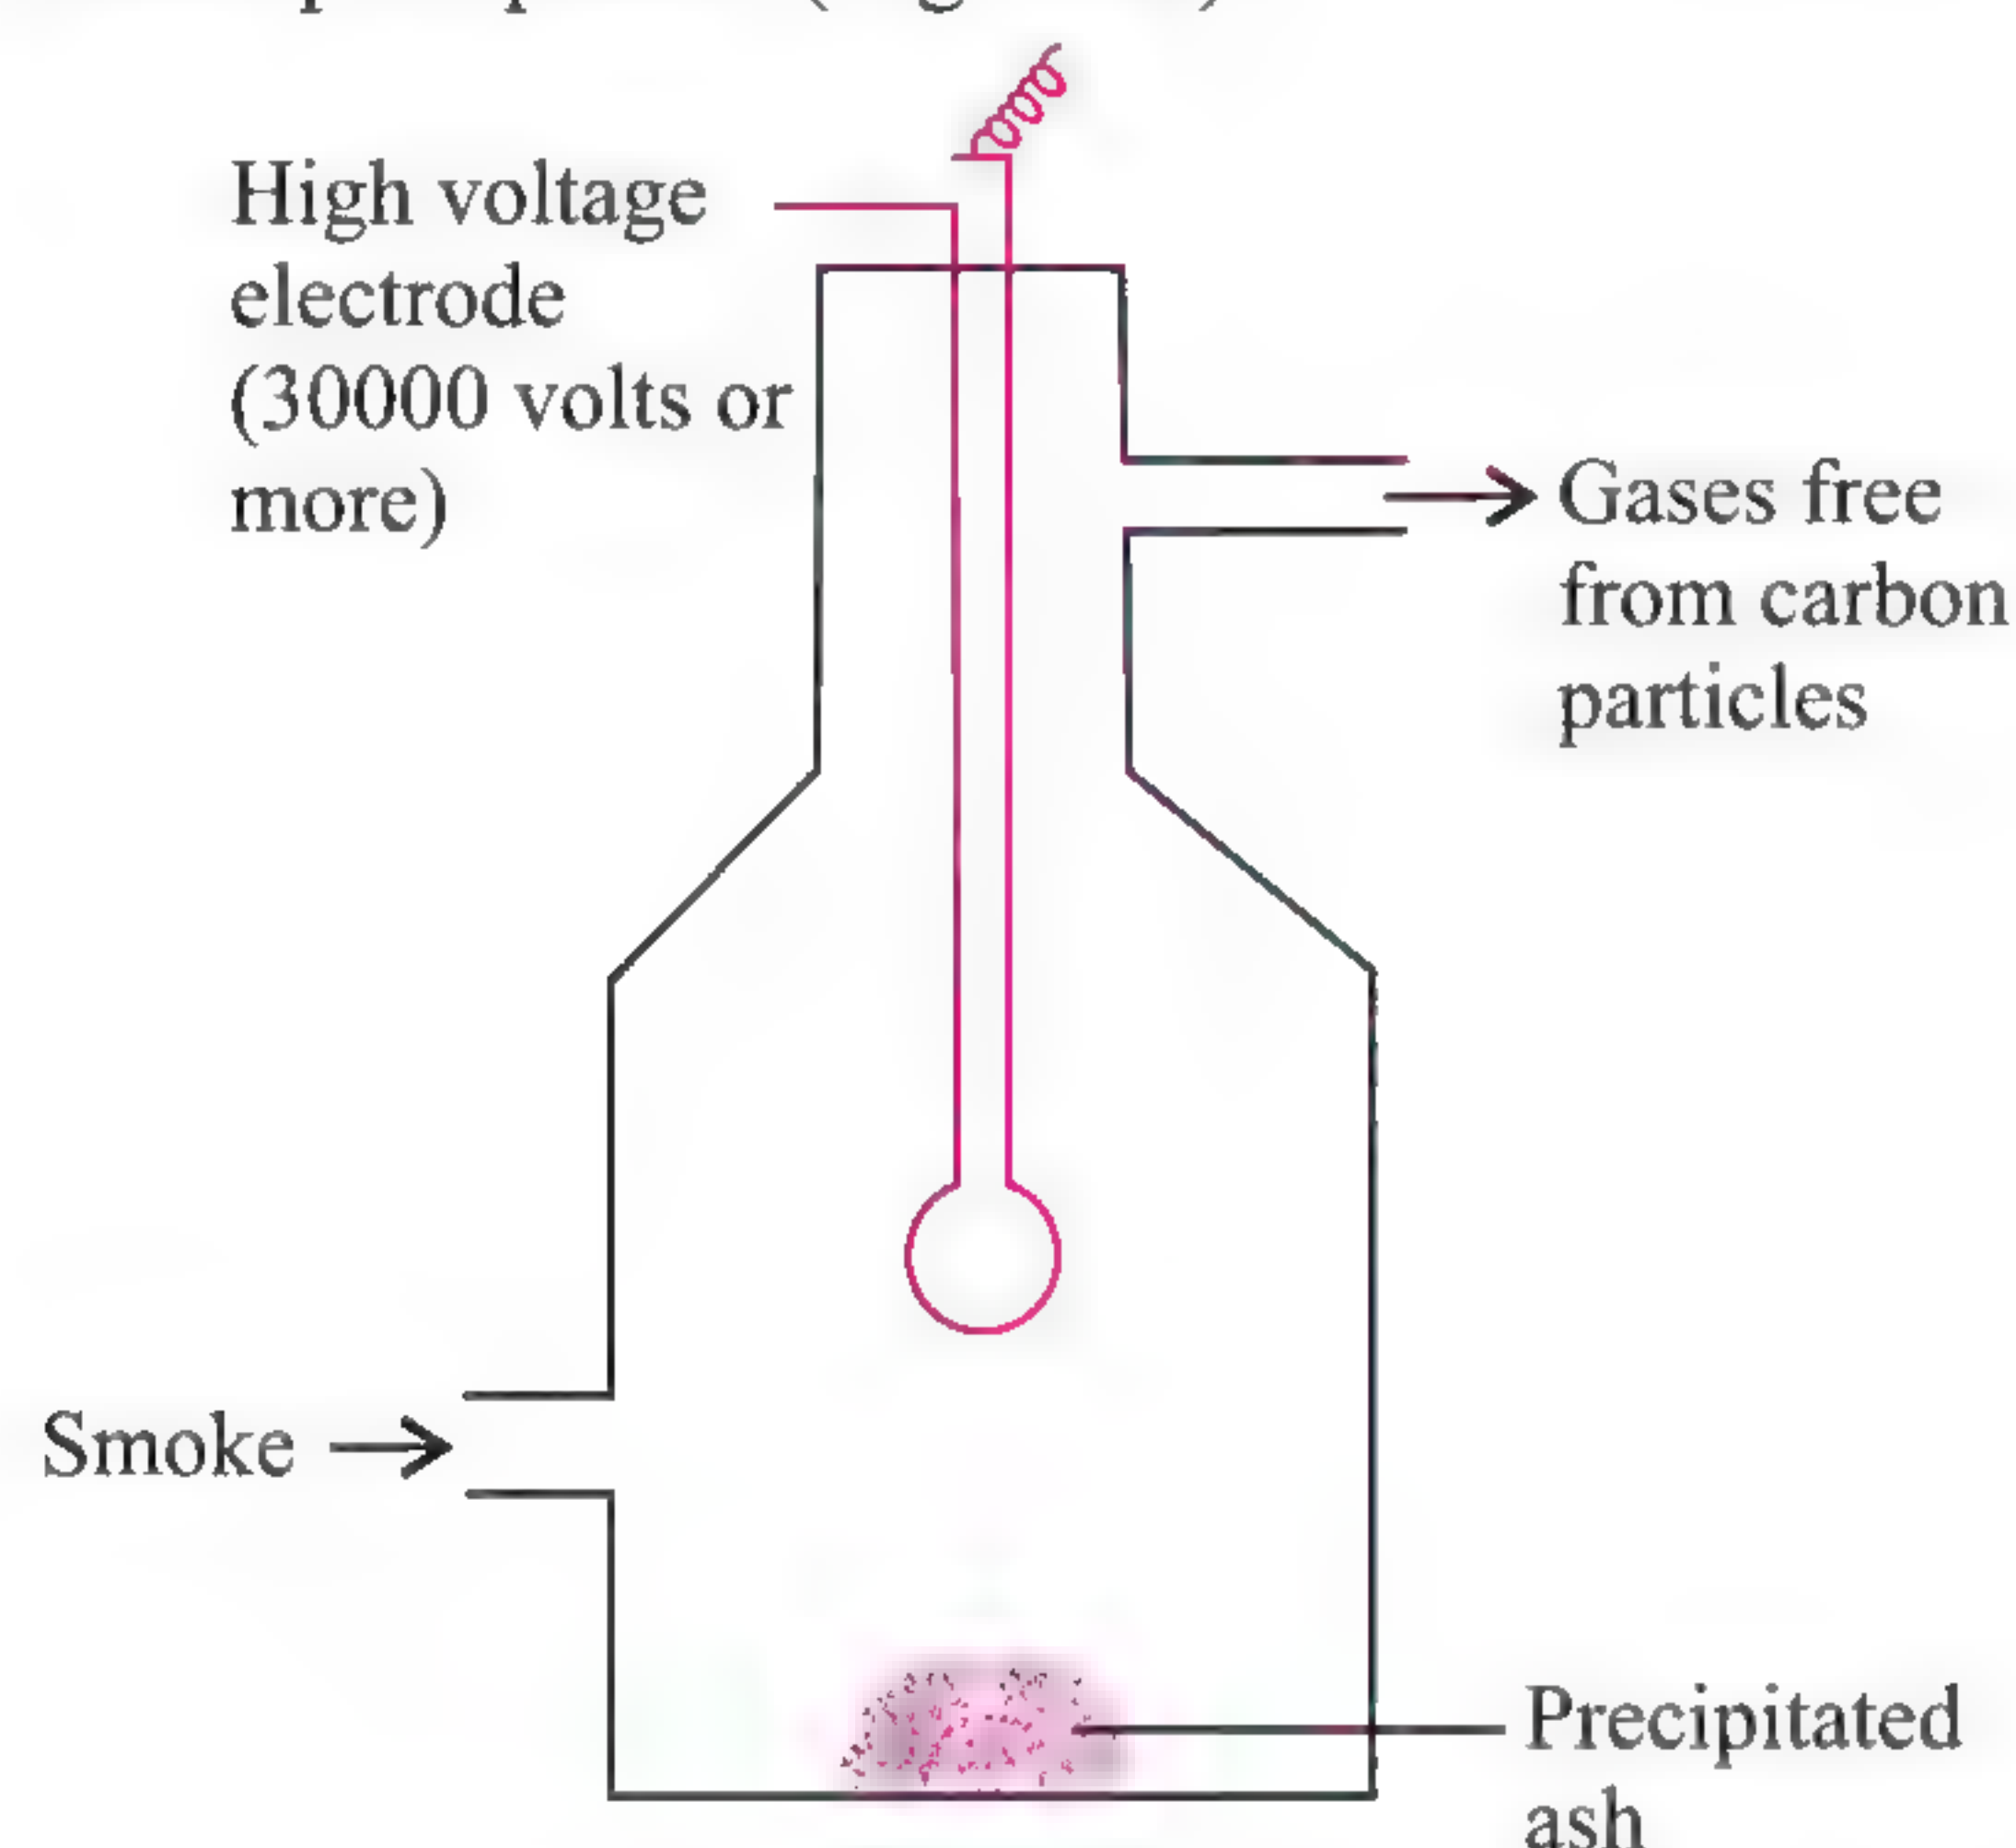

Fig. 5.28 Cottrell smoke precipitator
- a. **Electrical precipitation of smoke:** Smoke is a colloidal solution of solid particles such as carbon, arsenic compounds, dust, etc., in air. The smoke, before it comes out from the chimney, is led through a chamber containing plates having a charge opposite to that carried by smoke particles. The particles on coming in contact with these plates lose their charge and get precipitated. The particles thus settle down on the floor of the chamber. The precipitator is called Cottrell precipitator (Fig. 5.28).